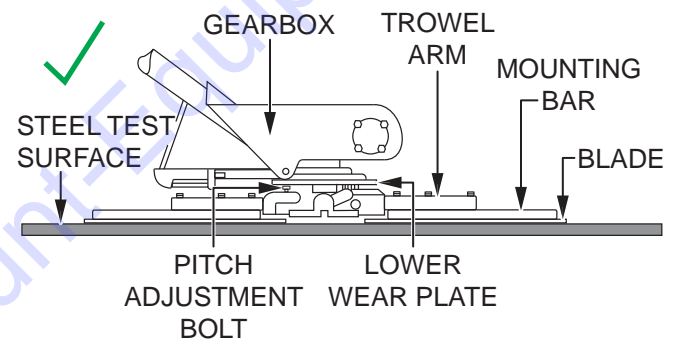

Figure 62. Blades Pitched Flat (Correct)
- Pitch the blades as flat as possible (Figure 62). The pitch adjustment bolts should barely contact (0.10 inch maximum clearance) the lower wear plate. All adjustment bolts should be spaced the same distance from the lower wear plate. If any one of the bolts does not make contact, adjustment is necessary.